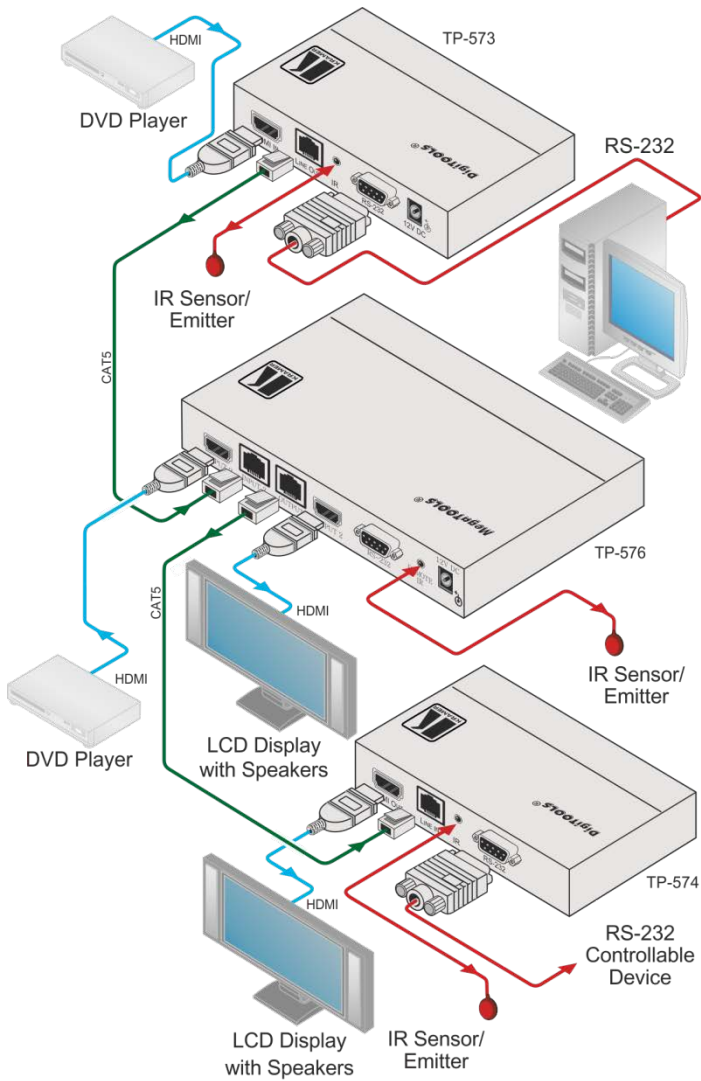

Figure 2: Connecting the TP-576 HDMI/CAT 5 Line Driver
To connect the **TP-576** together with the **TP-573 HDMI/RS-232/IR Line Transmitter** and the **TP-574 HDMI/RS-232/IR Line Receiver**, as illustrated in the example in Figure 2, connect the following:
4. The 12V DC power supply to the **TP-576** (not shown in Figure 2) (to power the **TP-576** as well as the **TP-573** and **TP-574**)
5. The 12V DC power supply to the **TP-576** (not shown in Figure 2).